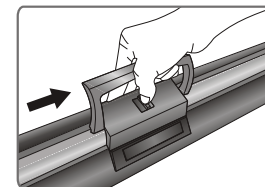

Figure 6
- Pull up the handle while using the thumb to release the tube lock as arrow indicates ( Figure 6 ).